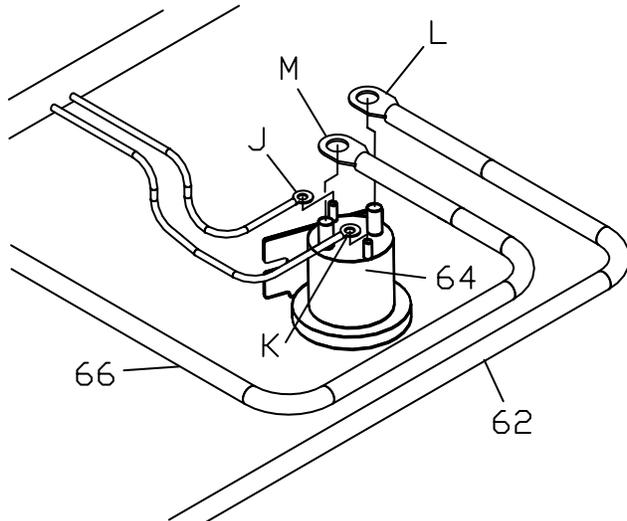

Figure 21. Solenoid Connections. G10145
- Attach Power Unit Solenoid (64) securely inside the engine compartment. The Power Unit Solenoid should be mounted in the upright position as illustrated in Figure 21.